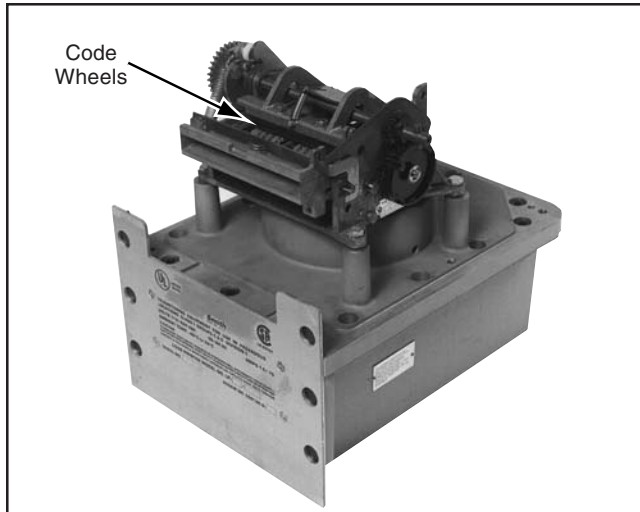

Figure 10 — Set Code Wheels
1. Set the identifier code wheels to the desired designation (Figure 10). See Installation Manual.